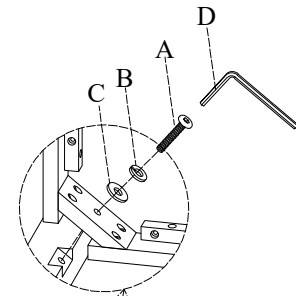

Figure 2
3. Attach the middle shelves to the leg frames using Bolt (A), Lock Washer (B) and Flat Washer (C) and tighten with the Allen Wrench (D). As Shown in Figure 2.